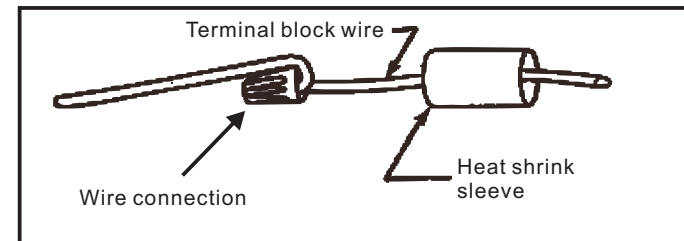

Figure 3
6. With the wire connectors properly installed, form the joined wires as shown in Figure 3.